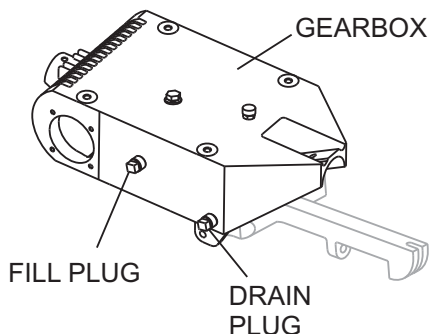

Figure 18. Gearbox
1. Determine if the **gearbox** oil is low by removing the oil plug located on the side of the gearbox. This plug will be marked by the "**check**" decal (Figure 18). The correct level of the lubrication oil should be to the bottom of the fill plug.